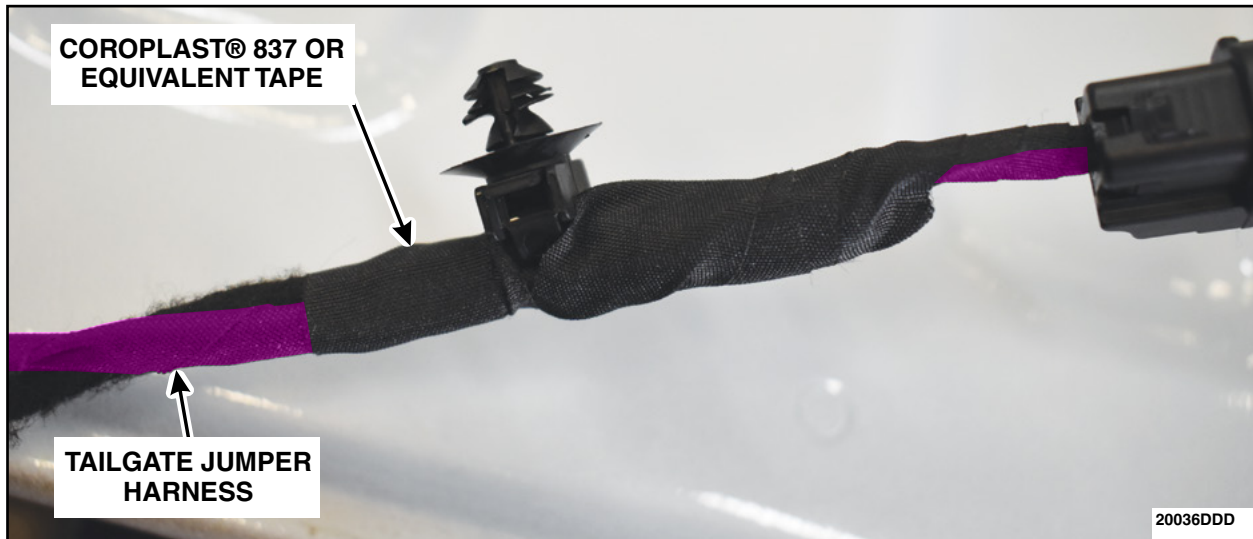

FIGURE 58
78. Apply a piece of Coroplast® 837 or Equivalent Electrical Wire Harness Tape after the push pin retainer to secure the Tailgate Jumper Harness. See Figure 58.